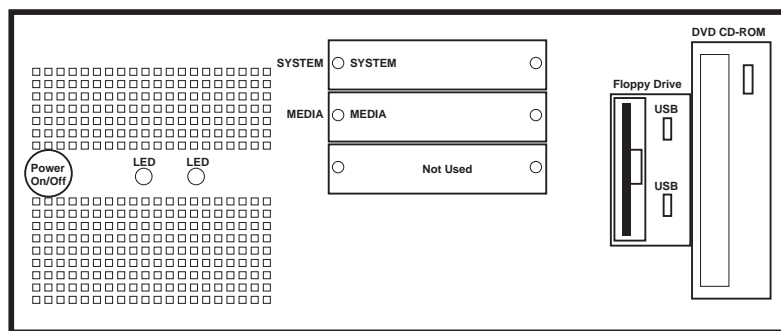

Figure 3-1: Front Panel of Deko1000 or Deko550 Workstation (front panel cover removed)
2. **Insert the System hard drive and Media hard drive into their respective drive bays on the front panel of the Deko1000 or Deko550 workstation. Refer to Figure 3-1.**